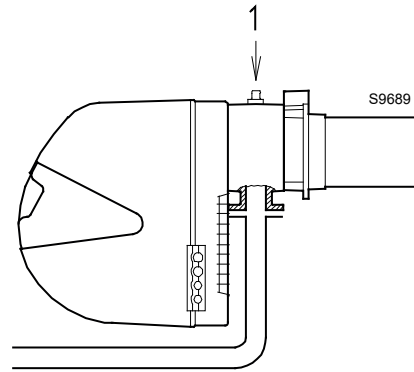

Fig. 28
Gas pressure measured at test point 1)(Fig. 28), with:
- subtract the combustion chamber pressure from the gas pressure measured at test point 1) (Fig. 28).
Gas pressure at test point 1) (Fig. 28) = 11.4 mbar
To calculate the required gas pressure at test point 1)(Fig. 28), with the output fixed at that required for the burner in the 2nd stage:
- Read, on the right (column 1), the pressure at the test point 1)(Fig. 28).
pressure required at test point 1)(Fig. 28).